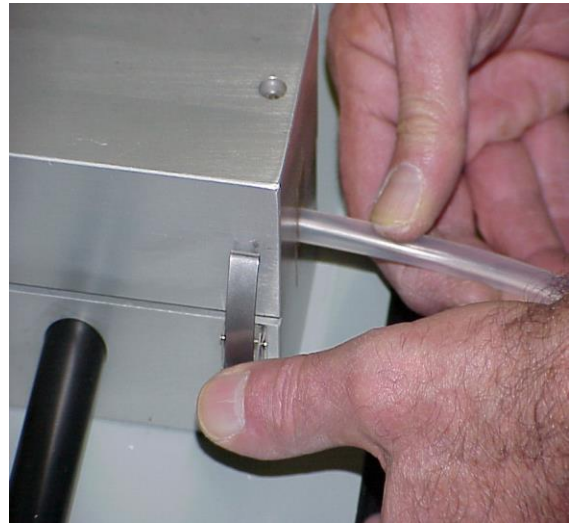

Figure 27
11.7 Slowly close upper Blowing Head section being careful to not pinch / damage fiber bundle and Air Seal. With a light pressure, push “back” towards the back of the blowing head on the 8mm Clear Tube and Air Seal to close the 1/64” gap. Then push down on upper Blowing Head section and engage front latch only. **See Fig. 27.**